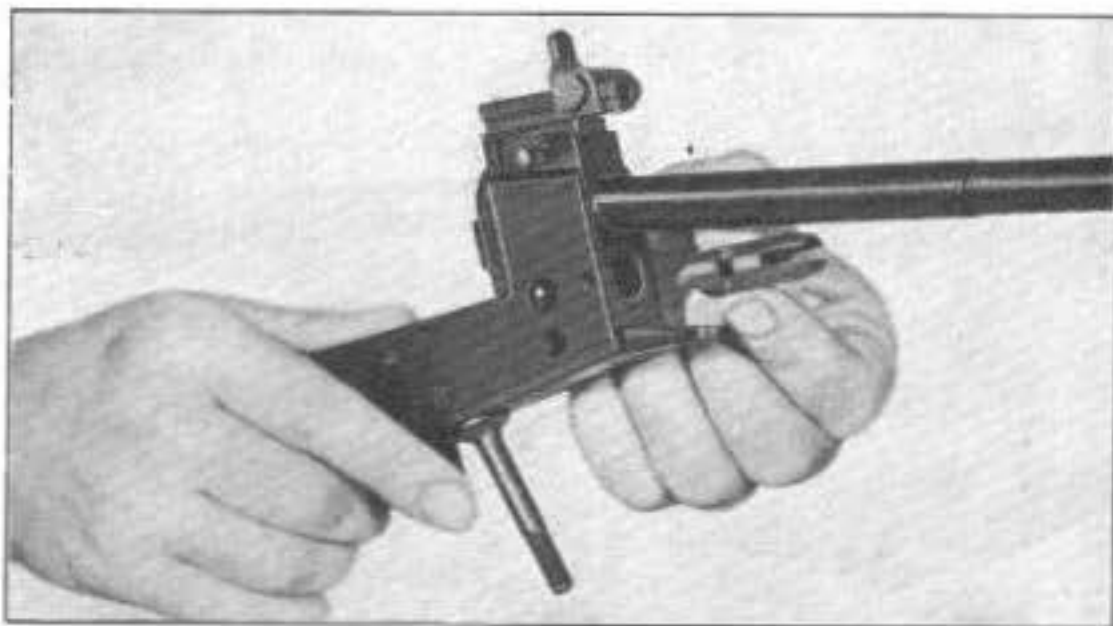

Fig. 123
Remove the lock from its housing (fig. 123).
- Replace the frame-body lock, see fig. 123.